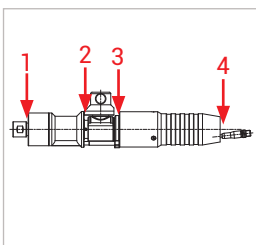

Figure 15
- ▶ Check the following measuring points (Figure 15):
- WEH® Service receptacle (1)
- guide bush and swivel joint (2)
- swivel joint and protective sleeve (3)
- fitting (4)